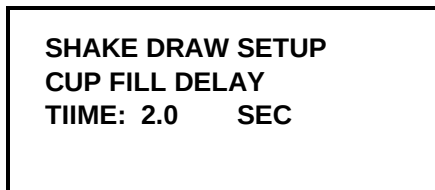

Figure 101
5. The last screen in the Shake Draw Setup is the CUP FILL DELAY. The setting range is 0.0 to 3.0 seconds, adjustable in increments of 0.5 seconds. The recommended setting is 2.0 seconds. The CUP FILL DELAY is adjusted to prevent the fill sensor from prematurely ending the draw due to product splashing in the cup or by detecting a temperature change when product begins to dispense. (See Figure 101.)